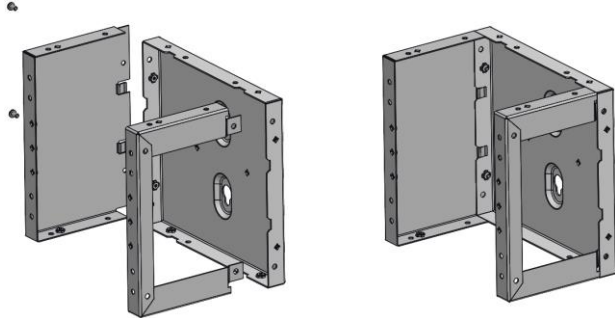

Fig 1
- Assemble the corner way ready to be attached to the cableway / spreader box by using two screws (No. 10 x 1/3") provided with the kit. Refer to the image in Fig 1 for more details.